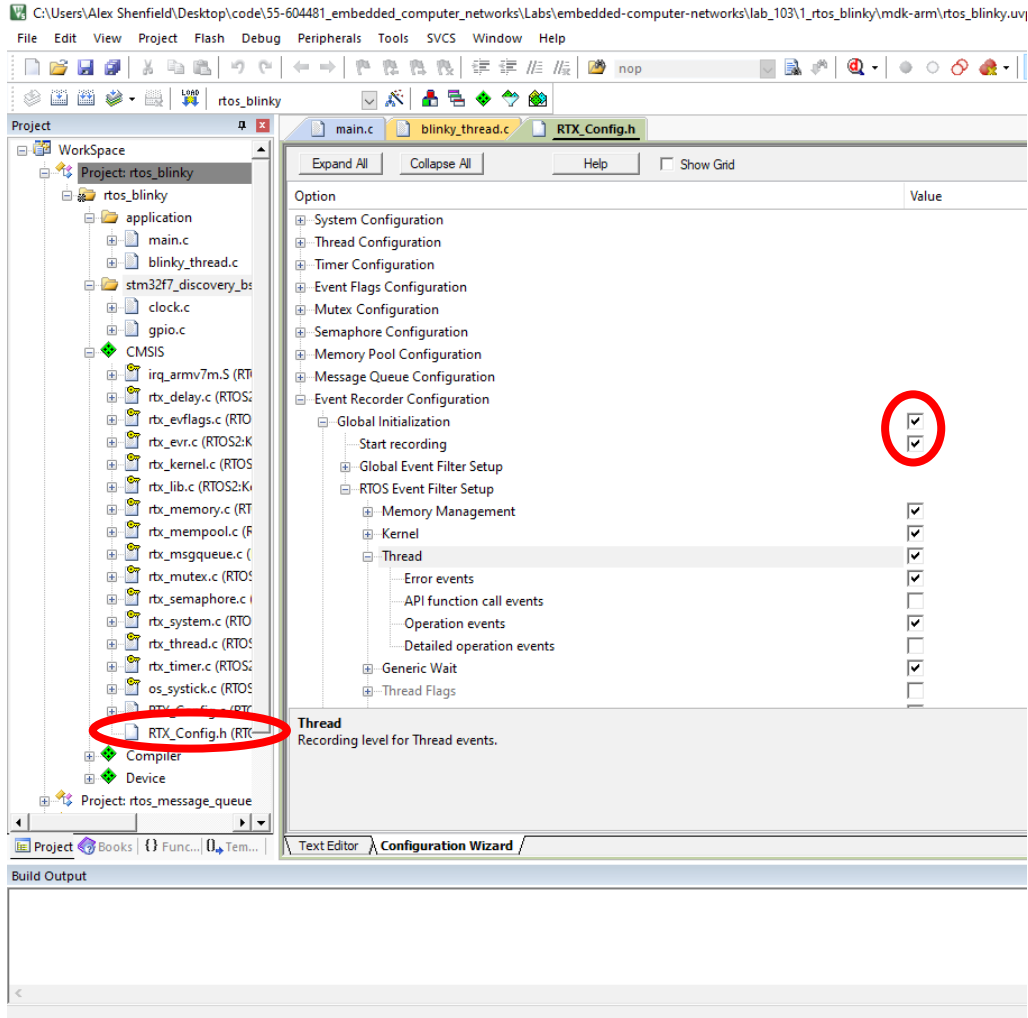

Figure 7 – Event recorder configuration for the RTOS
4. Finally we need to set up the **Event Recorder Configuration** in **RTX_Config.h**. Here we want the event recorder to be initialised during **osKernelInitialize** and then to start recording. We can also specify what RTOS related events we want to record (though the default settings seem to work reasonably well). These are shown in Figure 7, below.